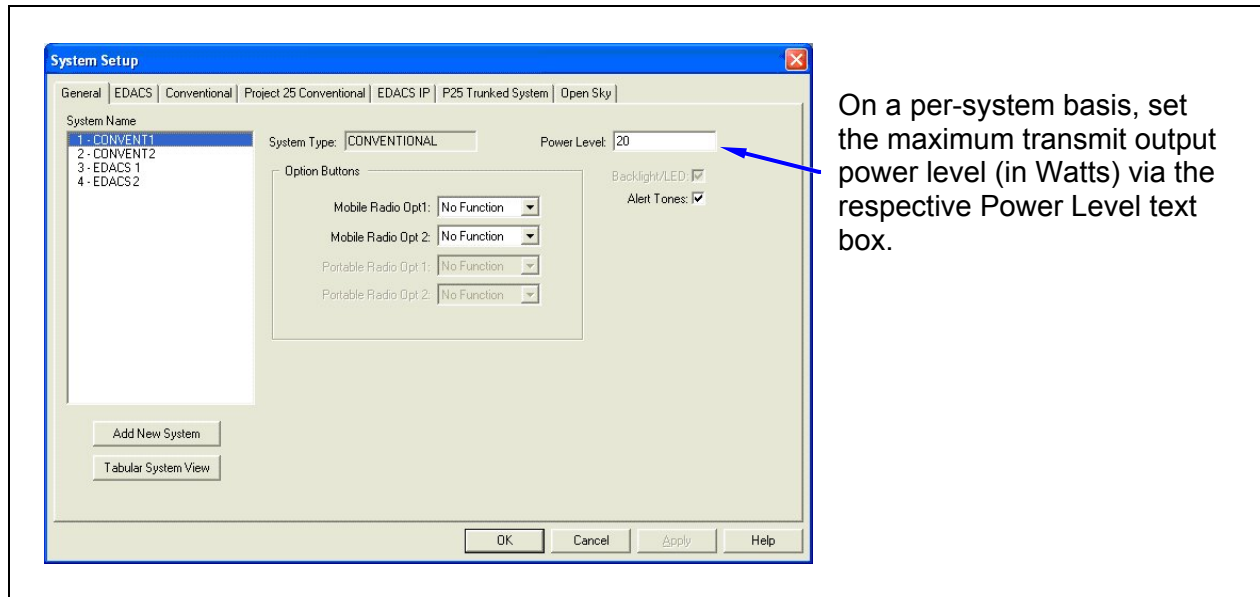

Figure 15-1: Setting Maximum RF Output Power Level via RPM’s System Setup Dialog Box
1. Connect the radio's DB-9 serial port connector to a Personal Computer (PC) that has a terminal application installed, such as Microsoft Windows HyperTerminal. To make this connection, use cable MAMROS0055 (6 feet), cable CA-013671-010 (10 feet) or cable CA-013671-020 (20 feet). Also, if the utilized PC is not equipped with a DB-9 serial port connector, the use of a suitable adapter will be required, such as USB-to-RS-232 Adapter Cable CN24741-0001.
4. Double-click the Systems tab to open the System Setup dialog box. Figure 15-1 shows a typical dialog box.